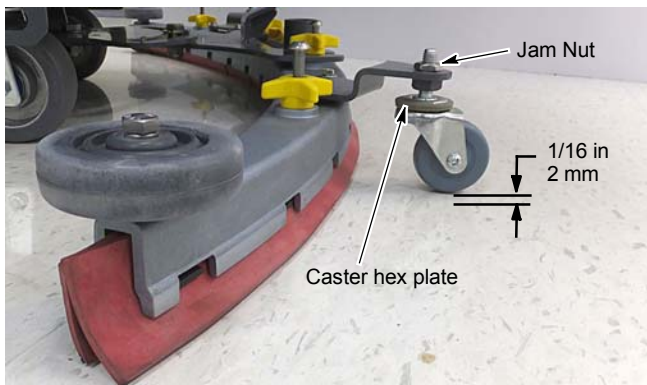

FIG. 8
6. To adjust the blade deflection, loosen the jam nut and turn the caster hex plate until there is a 1/16" (2mm) space between caster and floor. Re-tighten jam nut and repeat step on other caster (Figure 8).